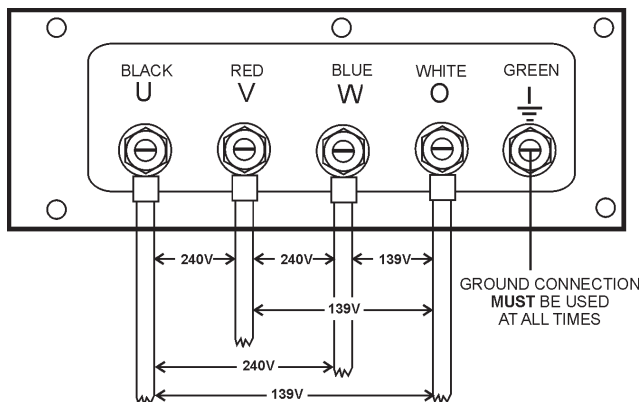

Figure 23. Output Terminal Lugs 240/139V Three Phase Connections
3. Turn the voltage regulator knob (Figure 23) clockwise to increase voltage output, turn counterclockwise to decrease voltage output.